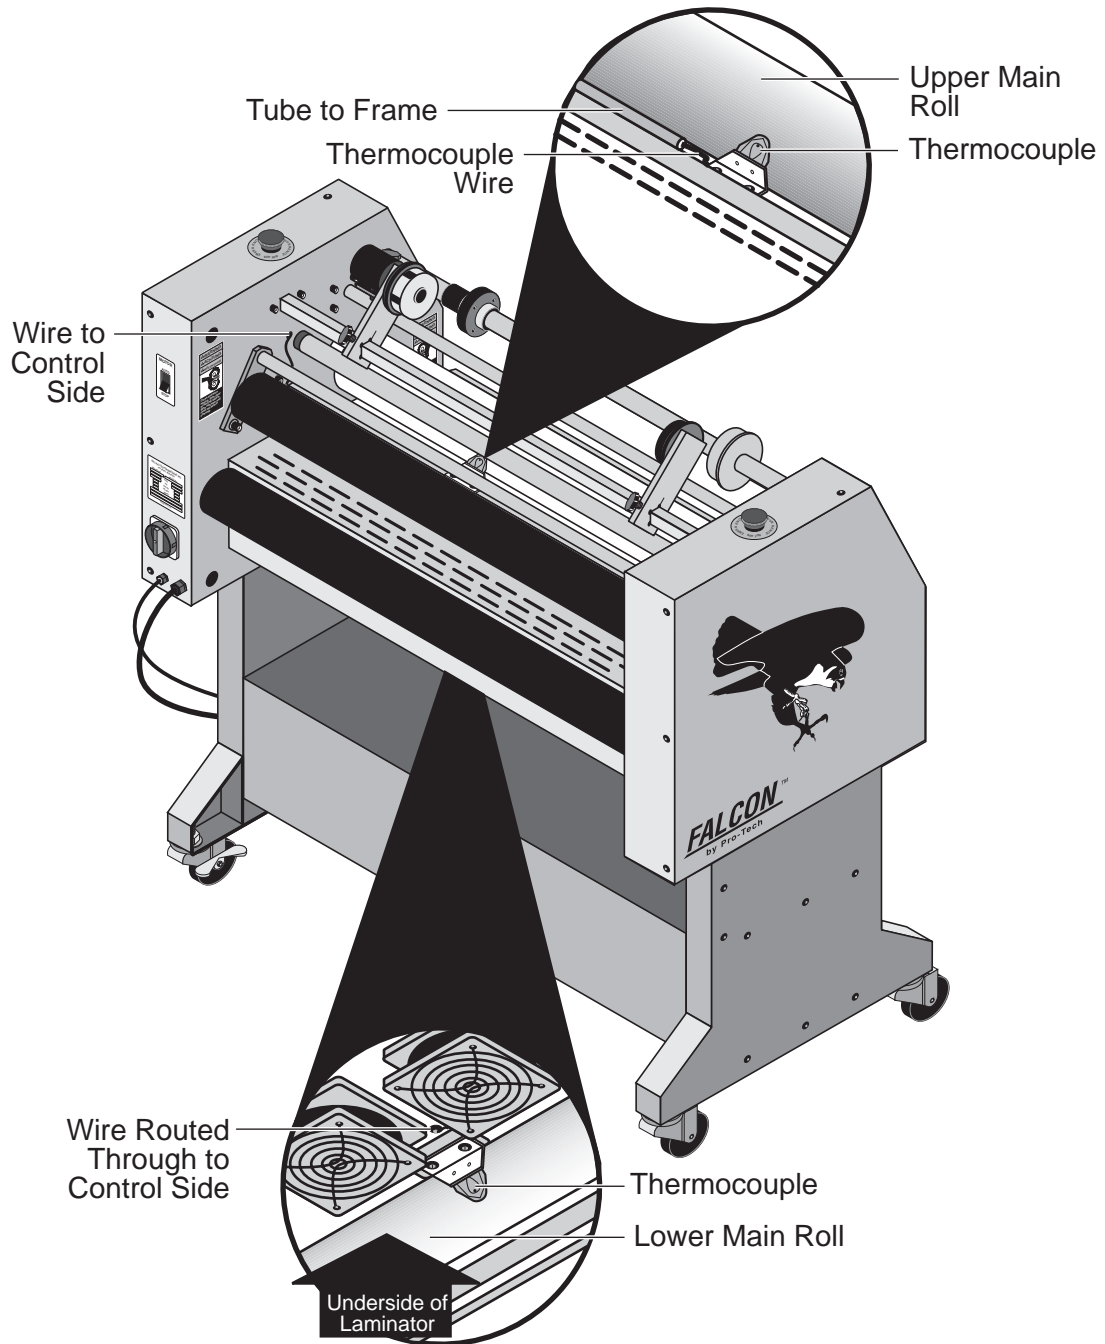

Figure 4-3: Locations of the Thermocouples
1. Locate the thermocouple to be adjusted using the illustration in Figure 4-3.